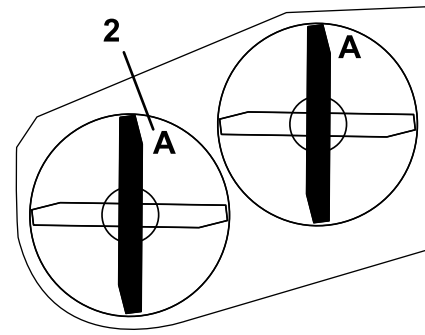
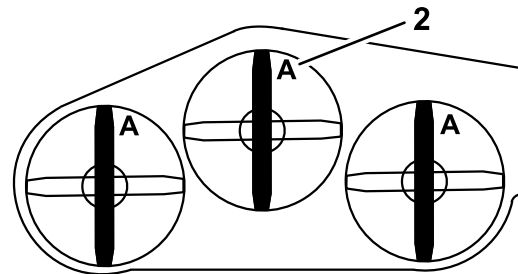

Figure 54
Figure 55
14. The right blade at the front position (Figure 54 or Figure 55) needs to be the same height as the left blade at the front position.
3. Rotate the blades until the ends face forward and backward (Figure 54 or Figure 55). Measure from a level surface to the cutting edge at position A, of the blades (Figure 54 or Figure 55). Note this dimension.